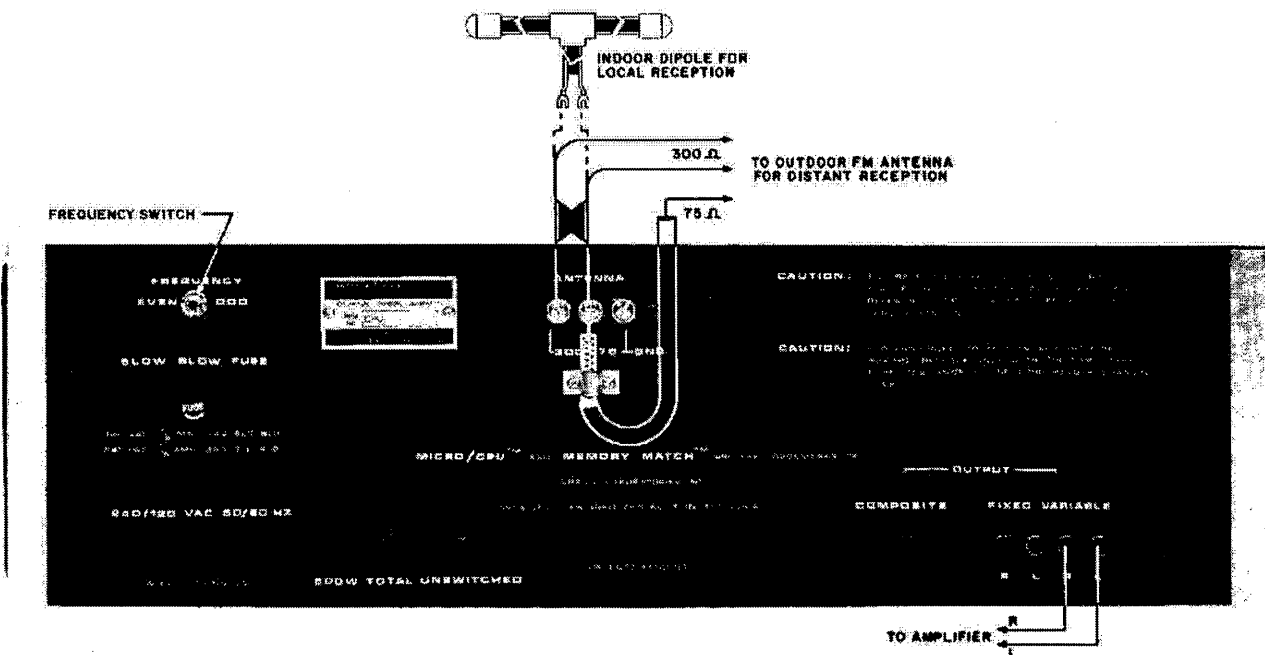

Figure 2
**FM ANTENNA:** The 'dipole' antenna provided with your tuner should be adequate for local FM reception. Connect this antenna to the two terminals marked '300Ω' on the back of the tuner per Figure 2. Attach the antenna's 'arms' horizontally to a non-metallic surface such as a window, a wall, or the rear surface of a cabinet or shelf—whichever position renders the best overall reception. In general, the antenna is best positioned when it is as high as possible above floor level and its arms are perpendicular to the source of transmission. However, in some strong signal localities, placement under a rug or carpet may prove acceptable.
When using a 75 ohm antenna system, its coaxial cable should be connected as follows: The outer braid shield (ground) should be held in place with the metal bracket per Figure 2 (which also establishes a ground connection for the shield) and the inner conductor wire should be connected to the terminal marked '75Ω.'